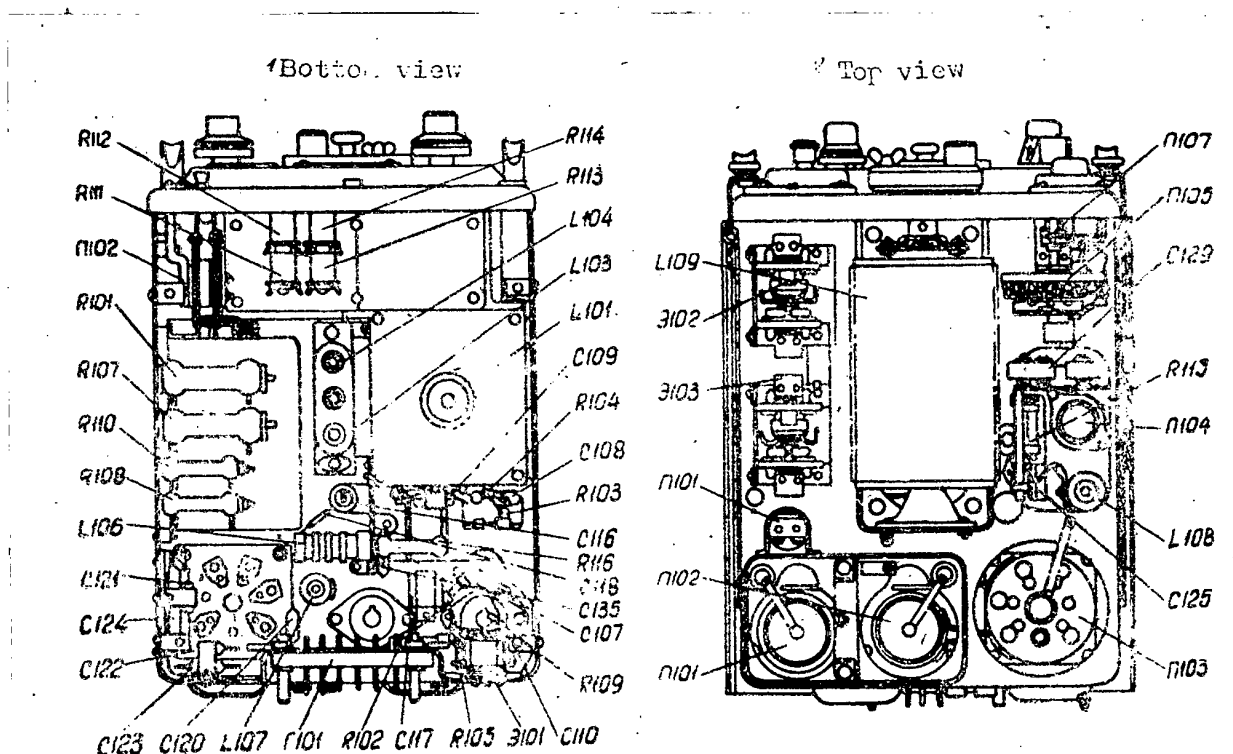

Figure 5: Location of the components in the r.f. units
- 1/Capacitors C 109, C 107, C 114, C 117 and C 116 in the plate circuit of the L 101 and L 102 vacuum tubes. The location of the components on the chassis is shown in fig. 5.